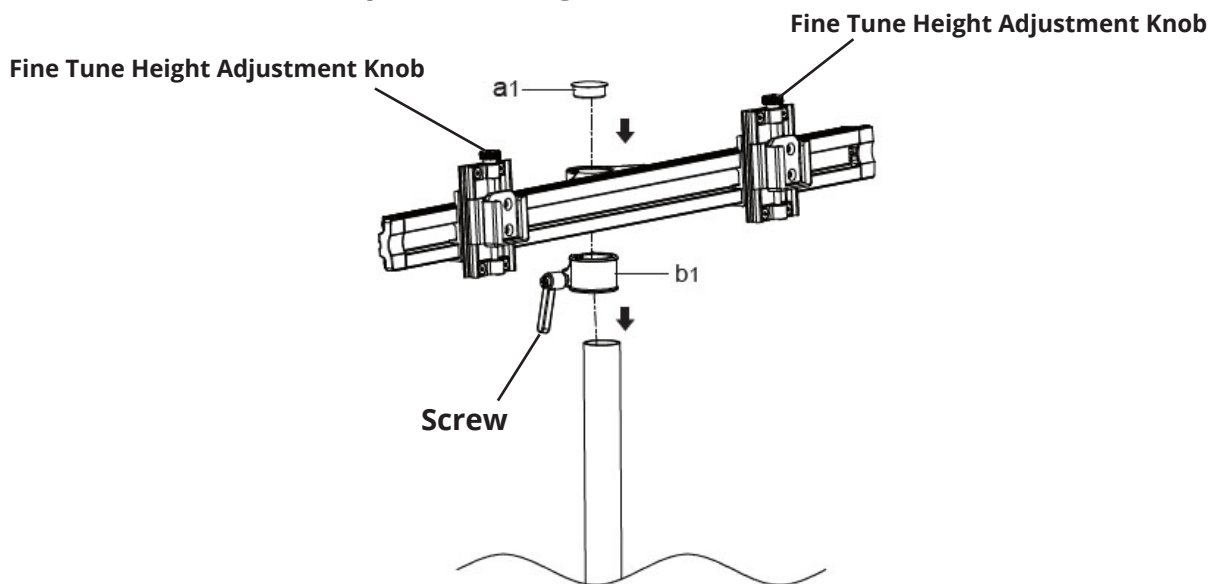

Figure 2A
1. Install the **Position Ring (b1)** at the desired height then tighten the screw to secure it. Next, slide the **Arm Assembly** onto the tube support so it rests on the Position Ring. Make sure the **Fine Tune Height Adjustment Knob** is facing up. Install the **Plastic Cap (a1)**, see **Figure 2A**.